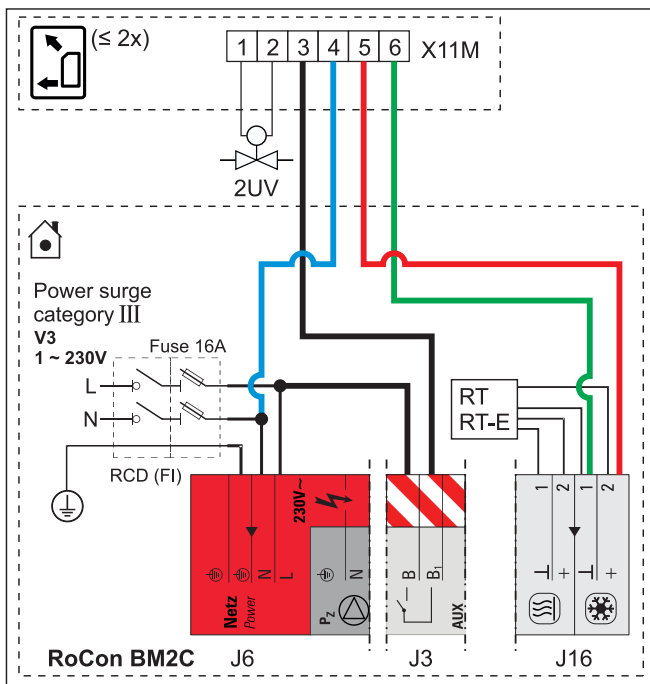

Fig. 4-41 Connecting the HP convector (max. 2) to the Daikin Altherma EHS(X/H)
- Electrical connection of the HP convector with the following accessories according to Fig. 4-41 as a switchover contact (heating/cooling).